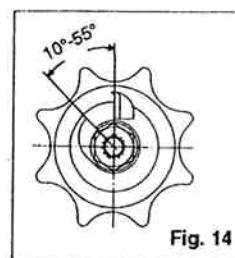

Fig. 14
**Note:** The angle between handwheel cam and check washer must be set between min. 10° and max. 55° (fig. 14).